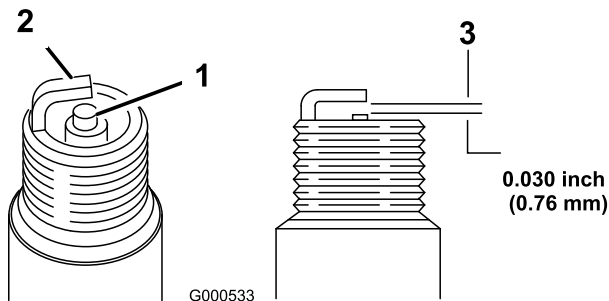

Figure 33
1. Look at the center of the spark plug (Figure 33). If you see light brown or gray on the insulator, the engine is operating properly. A black coating on the insulator usually means the air cleaner is dirty.
2. Check the gap between the center and side electrodes (Figure 33). Bend the side electrode if the gap is not correct.